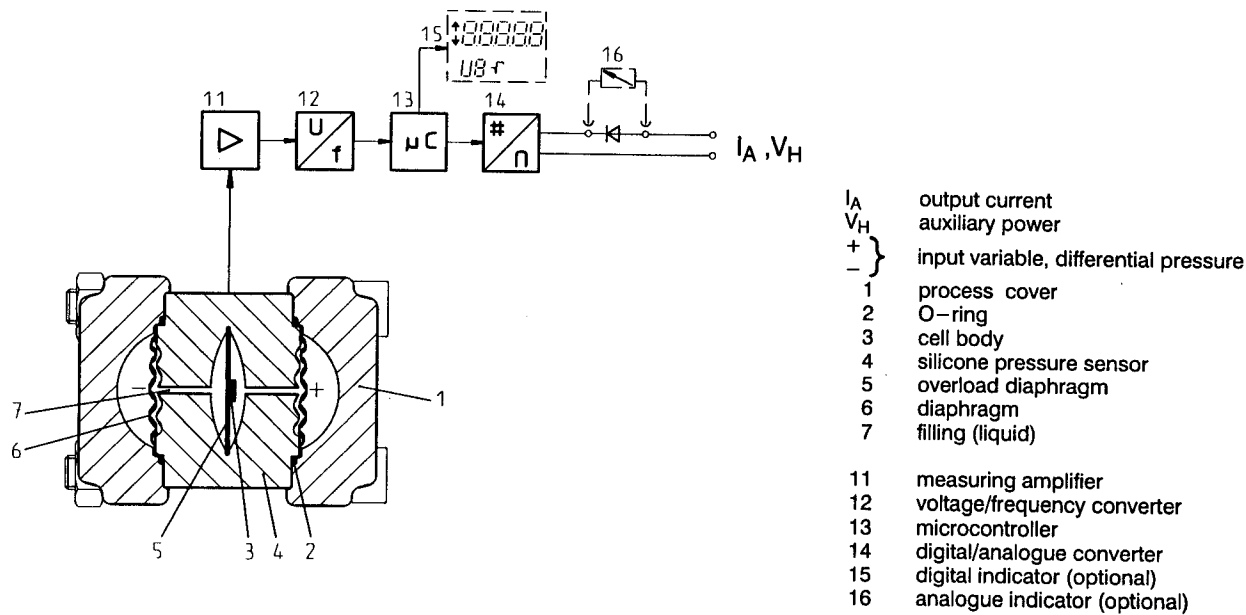

Figure 1.1 SITRANS P differential pressure and flow transmitter, function diagram
Differential pressure is transmitted to a silicone pressure sensor (4, see Figure 1.1) through a diaphragm (6) and a liquid filling (7). If the pressure is too high, the overload diaphragm (5) is distorted until one of the diaphragms touches the body of the measuring cell (3), thus protecting the sensor (4) from overloads.